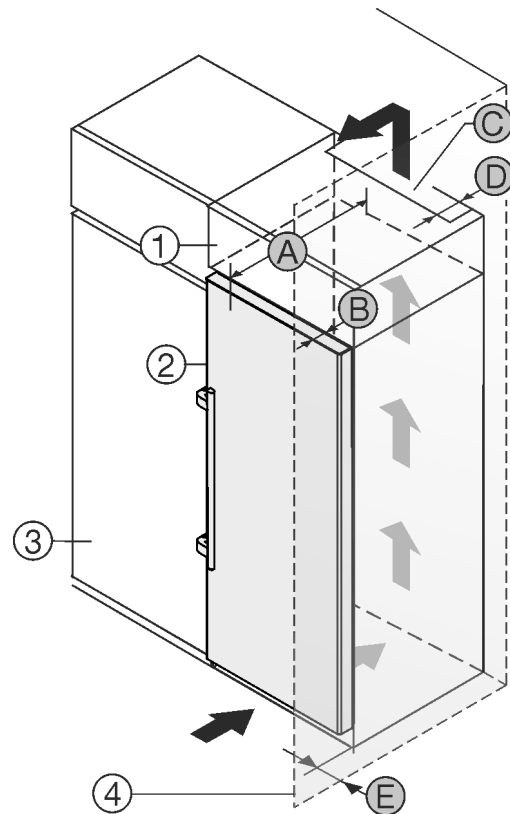

Fig. 8
The appliance can be built into kitchen units. A top cupboard *Fig. 8 (2)* can be added above the appliance in order to bring the appliance *Fig. 8 (1)* up to the height of the fitted kitchen units.
The appliance can be installed right next to the kitchen cabinet *Fig. 8 (3)*. The appliance must protrude by depth *Fig. 8 (B)* from the front of the cabinet so that the doors can be opened fully. The appliance may protrude further depending on the depth of the kitchen cabinets and whether wall spacers are used.
- At the back of the top cabinet, there must be an air outlet shaft with depth *Fig. 8 (D)*, spanning the entire width.
- The ventilation shaft *Fig. 8 (C)* must be observed under the ceiling.
If the appliance is installed with the hinges next to a wall *Fig. 8 (4)*, the distance *Fig. 8 (E)* between the appliance and the wall must be observed. This is how far the handle protrudes when the door is open.